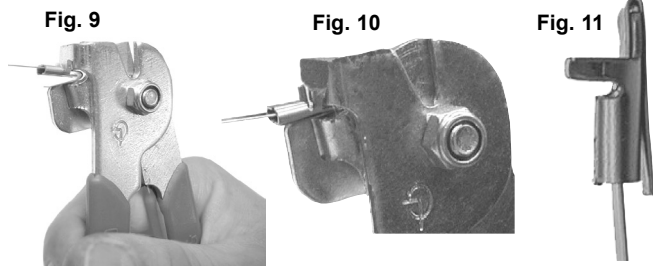

Fig. 6
4.3. Cut the band, using plier position 2, handles 2 & 3 held together. (Fig.6)